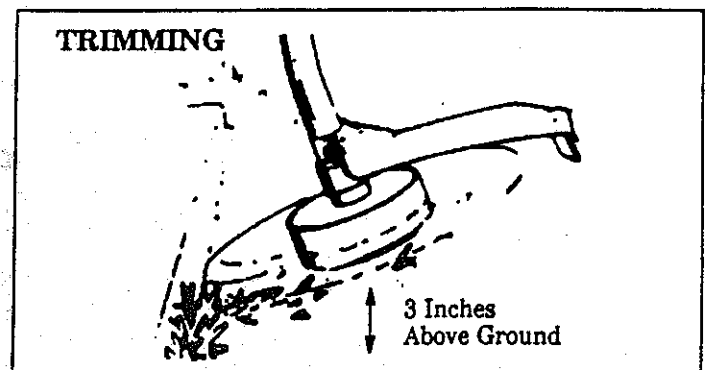

Figure 12
1. **TRIMMING** - Figure 12. Hold the bottom of the trimmer head about 3 inches above the ground and at an angle. Allow only the tip of the line to make contact. Do not force the trimmer line into the work area.